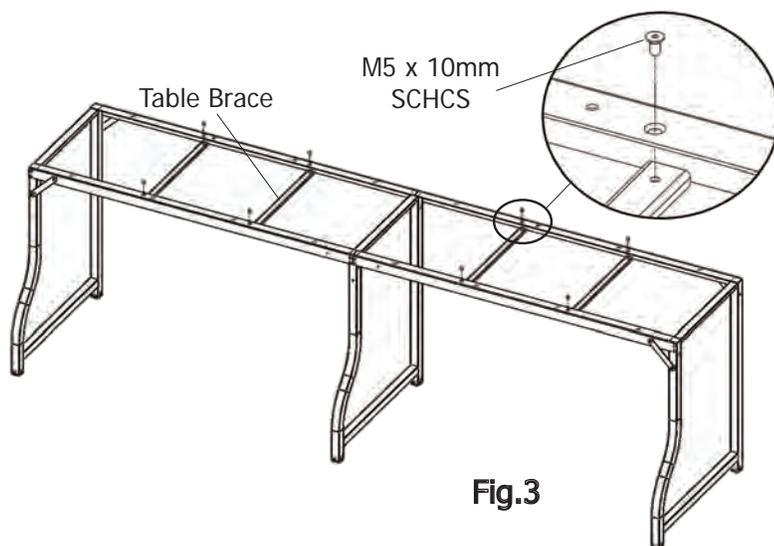

Fig.3
- Table Brace (4)
- M5 x 10mm SCHCS (8)
3-1: Attach each Table Brace to the Table Supports by aligning the holes on the two ends of the table brace with the flat side facing up, screwing in the (8)-M5 x 10mm SCHCS, as shown in Fig. 3.